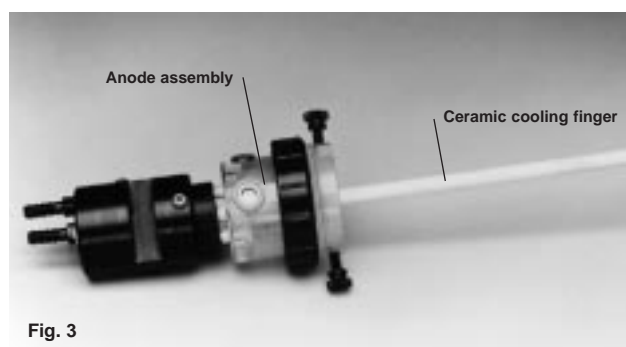

Fig. 3
1. Slide the assembled anode electrode assembly over the ceramic cooling finger so that the two protruding screw heads fit into the holes in the black plastic base of the cooling finger support assembly (Figure 3).